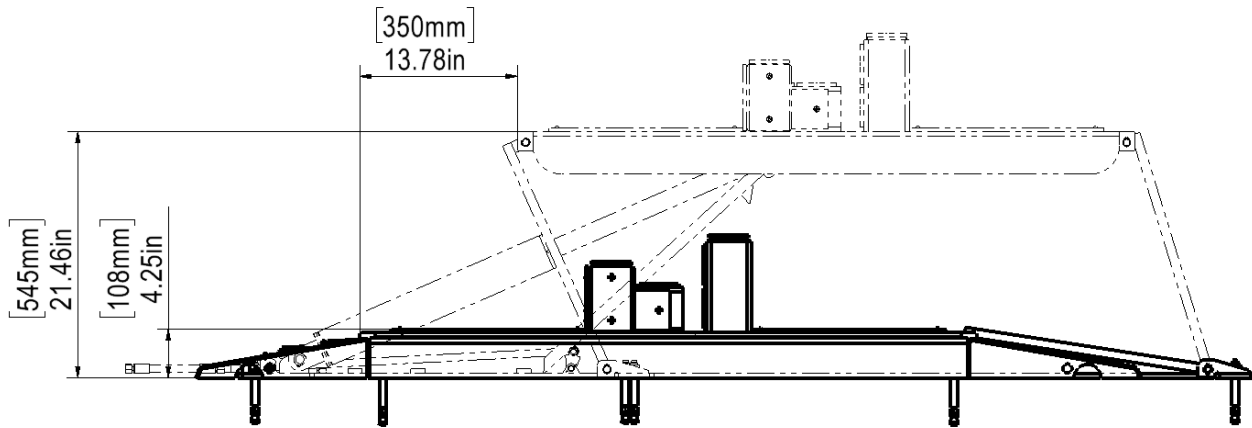

Fig. 2
**INSTALLER'S NOTE:** The lift can be installed with the cylinder end oriented towards either the front or rear of the bay. Pay close attention to lift clearance requirements; clearance should be calculated based on the full raised height of the lift plus the height of the tallest vehicle you intend to service. DO NOT install the lift on asphalt or similar unstable surfaces. At full rise, the lift moves the vehicle 13.78 inches (350mm) (refer to Fig. 2).